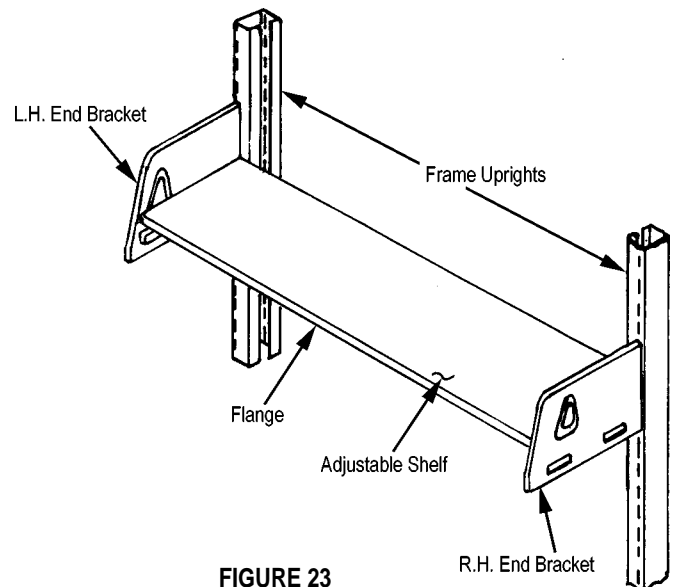

FIGURE 23
2. Shelves are now fully adjustable and can be easily located where required. See Figure 23.
1. Place an adjustable or divider shelf between two shelf end brackets with the side flanges of the shelf fitting behind the tabs in the brackets. Tap down the shelf, by hand, until the shelf is securely in place. (Reference Steps 1 and 2, Figure 23, page 9).